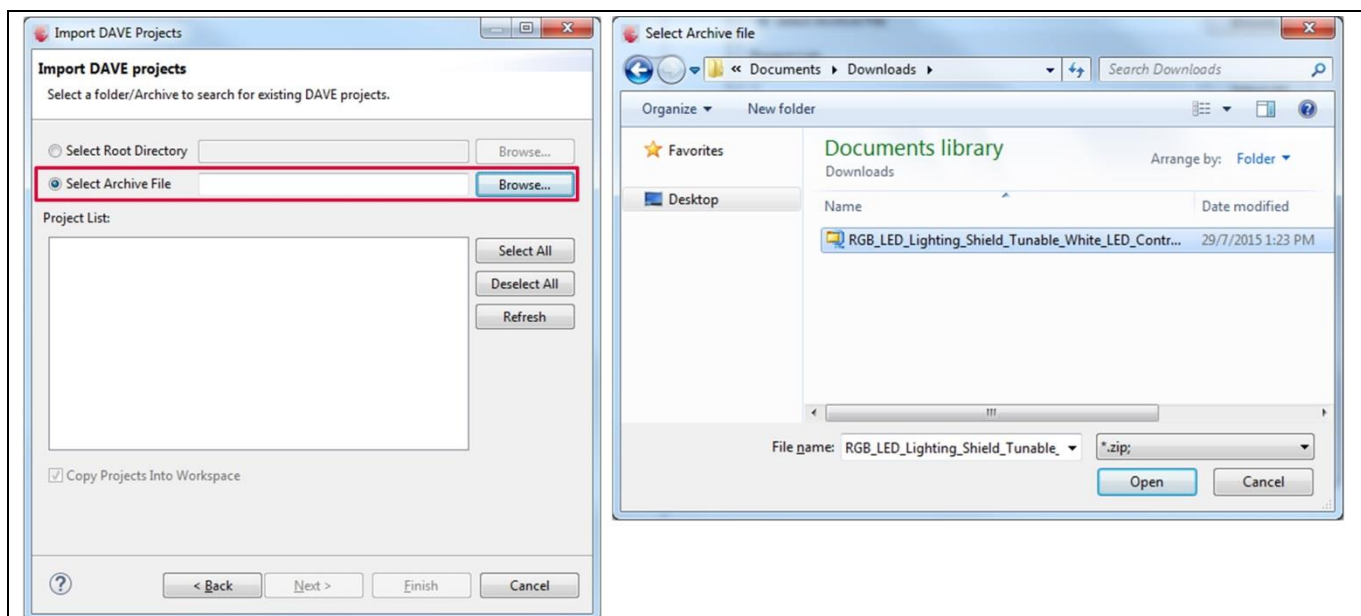

Figure 17 Select downloaded zipped file
3. Select “Select Archive File”. Click “Browse”. Select the zipped project file from the location where it was previously downloaded to (Figure 17).